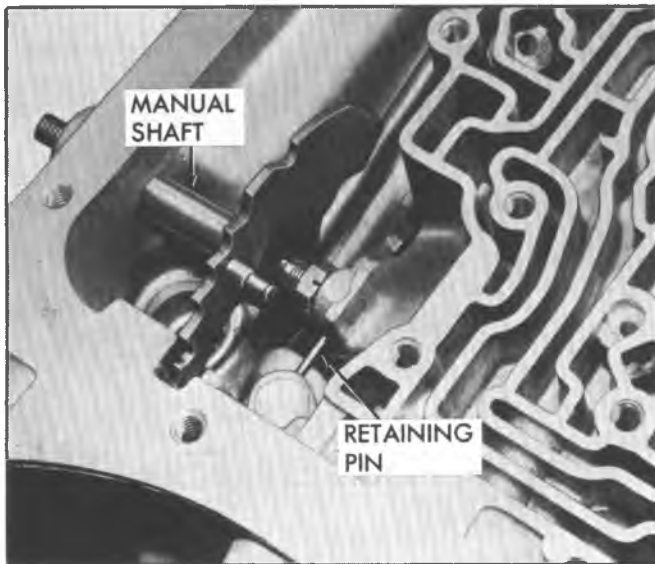

Fig. 17T--Removing Manual Shaft Retaining Pin from Case
- 2. Remove manual shaft retaining pin from case (fig. 17T).